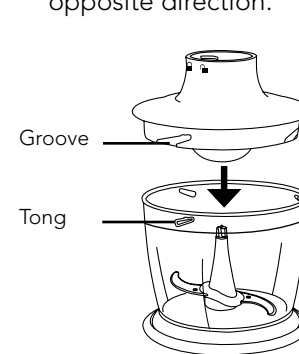

FIG. 2a
Align the indentation on the blade with the stop pin on the spindle rod and carefully attach the blade onto the spindle pin as illustrated in Fig. 2a.
2. Attach the Chopper lid onto the bowl, refer to Fig. 2a., and turn it in a clockwise direction until the tongs on the chopper bowl are aligned and locked with the grooves on the chopper lid, as illustrated in Fig 2b.